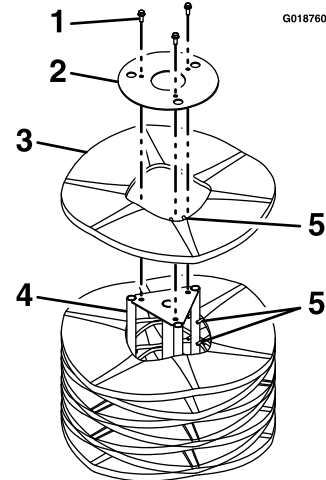

Figure 35
5. Stand the broom core assembly on end so that the removable end retainer plate faces upward (Figure 35).
6. Remove and retain the hardware from the end-retainer plate (Figure 35).
8. Install the new segment(s) by staggering the metal ring alignment fingers as shown in Figure 35.